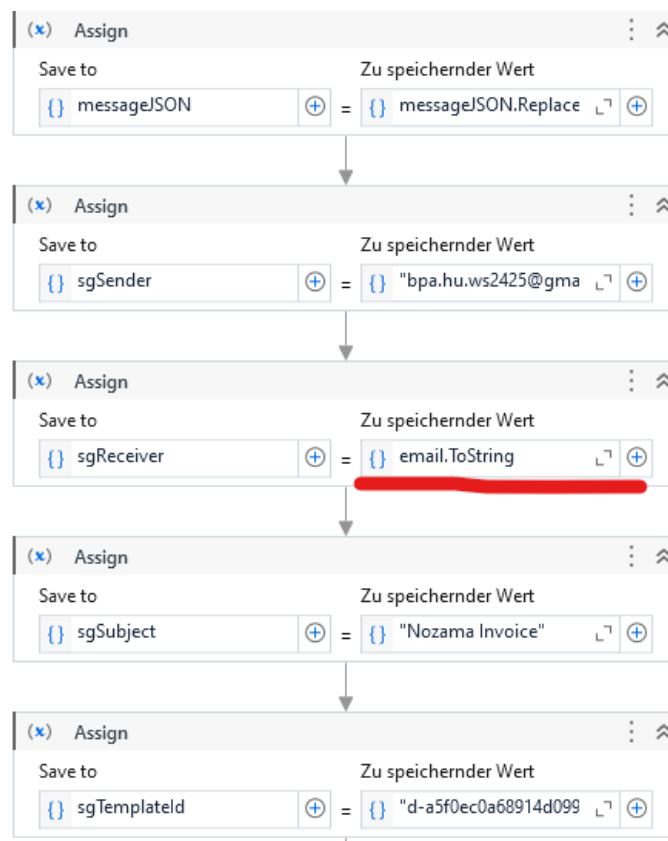

Figure 1: Screenshot where to change email receiver
- Now upload a customer order to aforementioned folder which has the same layout as the provided PDF (*dummy_invoice.pdf* - can be also found in the repository). Also, if the ordered item is not in our database, the code runs into an error - so make sure to only order "pencil", "tablet" or "soccerball". Make sure that the email is set correctly such that you can get the email - otherwise poor Wei has to be spammed by Nozama invoices which he has to pay. If you encounter problems when changing the email on the PDF file, it is also possible to change the email receiver in the code itself in UiPath (has to be of type string). Please look at the provided screenshot (see figure 1) to see where to change the value, it is in the lower/final part of the code.